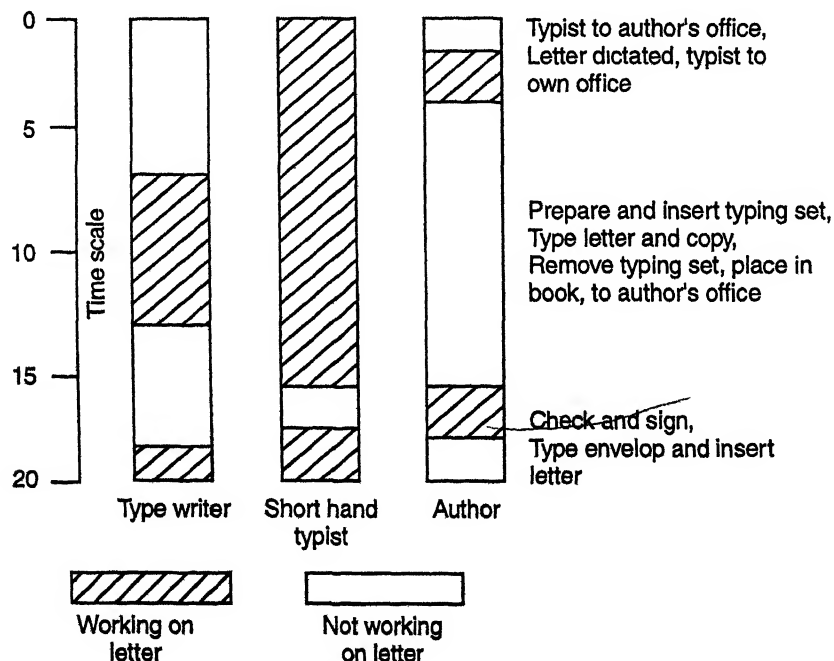

Fig. 21.5.
**Chart's construction.** The activities in respect of workers and machines are usually recorded by shading the respective bars. The timings which can be built up from previous measurements or by direct timing, need only be adequately accurate to ensure that the chart will be as effective as possible. The timings determined by clock or wrist watch are sometimes sufficient; however, frequently it will be necessary to ascertain times by one of the techniques of work measurement. The activities are then plotted in sequence against time scale within their own particular bar on the chart. Fig. 21.5 shows a multiple activity chart for the job writing a letter using a short hand typist.